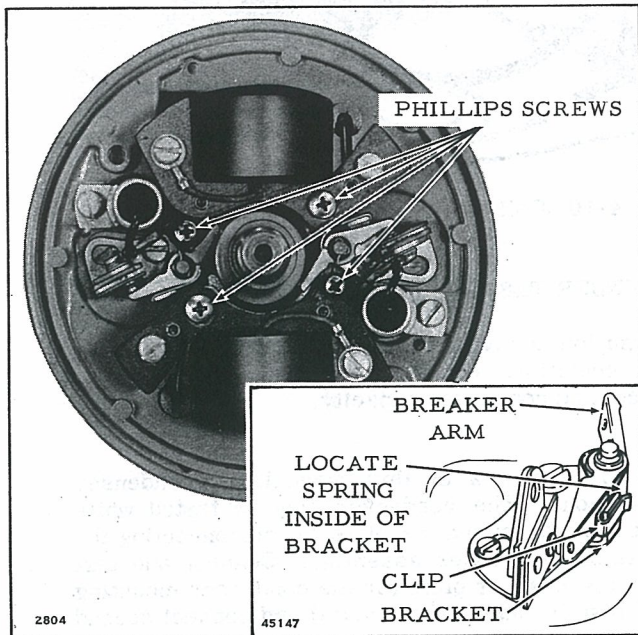

Figure 4-6. Magneto Attaching Screws
e. Loosen four Phillips head screws attaching magneto armature plate to retaining ring. See Figure 4-6. Lift magneto armature plate assembly from power head.